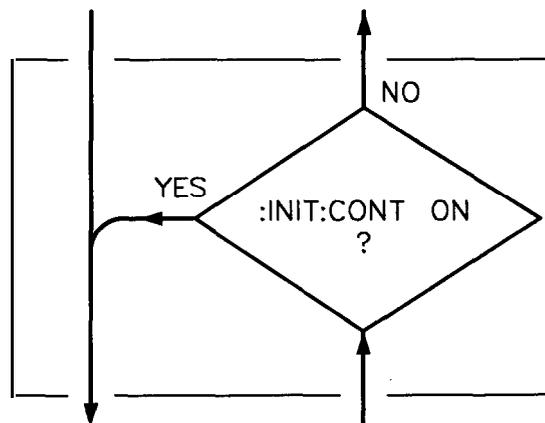

Figure 1-37. Inside the Initiate State
**Inside the Initiate State.** Figure 1-37 illustrates the operation of the *initiate* state.